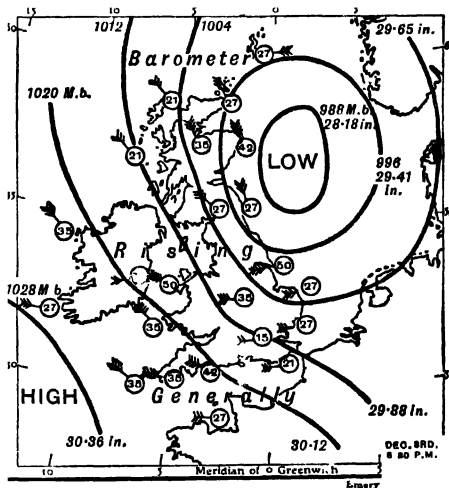

FIG. 39. WEATHER CHART SHOWING A CYCLONE OR LOW PRESSURE AREA.
N.E. Such movements are often regions of low pressure with the pressure increasing outwards (Fig. 39) and winds blow towards the centre of the region but are deviated because of the
Charts are constructed at the Meteorological Office from barometer and wind records from certain stations on land and from ships at sea; on these charts all places of equal pressure are joined by lines called *isobars*. A region of low pressure indicates a *cyclone*, and one of high pressure with the pressure decreasing outwards indicates an *anticyclone*. Generally the former means bad weather and the latter, fine settled weather. From Fig. 39, the forecast would be that the weather was likely to improve since the cyclone was passing and an anticyclone approaching.